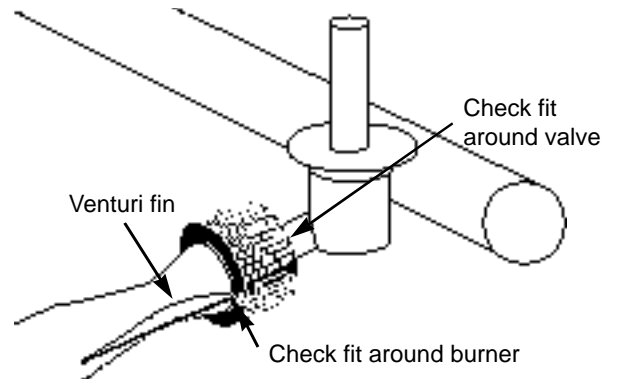

Figure 17
13. Reinstall the Spider Stopper Guards. Slightly rotate the Spider Stopper Guards so that the seams are in line with the Venturi fins. There should be no gaps in the seams or in the fit around the burners and valves. Figure 17.